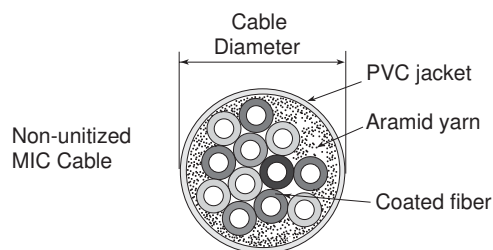

Figure 2
4.1 Prior to installation, the proper size grip must be chosen for the cable to be pulled. Grip selection is based on the outside diameter of the cable (Figures 2 and 3).